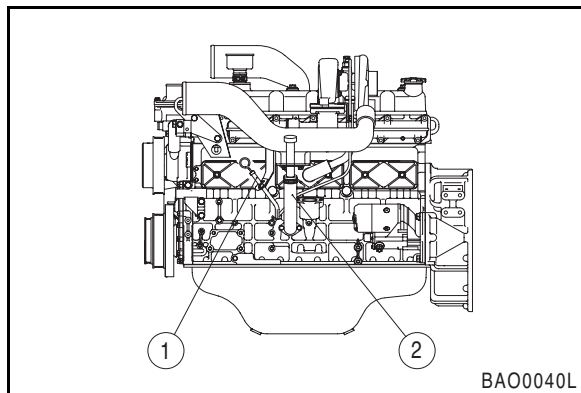

Figure 64 (S/N 4001 and Up)
4. Fill engine with correct oil through oil fill port (2, Figure 64).
6. Shut down engine. Look for signs of leaks at filter. Recheck oil level using dipstick (1, Figure 64).